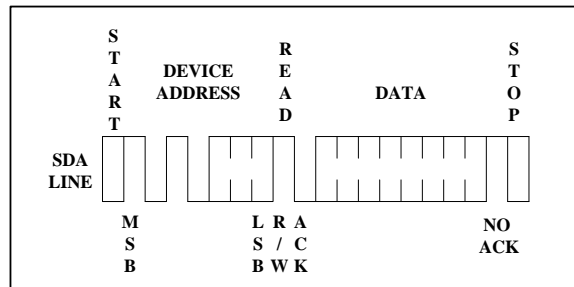

Figure 9. Current Address Read
**CURRENT ADDRESS READ:** The internal data word address counter maintains the last address accessed during the last read or write operation, incremented by one. This address stays valid between operations as long as the chip power is maintained. The address "roll over" during read is from the last byte of the last memory page to the first byte of the first page. The address "roll over" during write is from the last byte of the current page to the first byte of the same page. Once the device address with the read/write select bit set to "1" is clocked in and acknowledged by the EEPROM, the current address data word is serially clocked out. The microcontroller does not respond with an input "0" but does generate a following stop condition (see **Figure 9**).